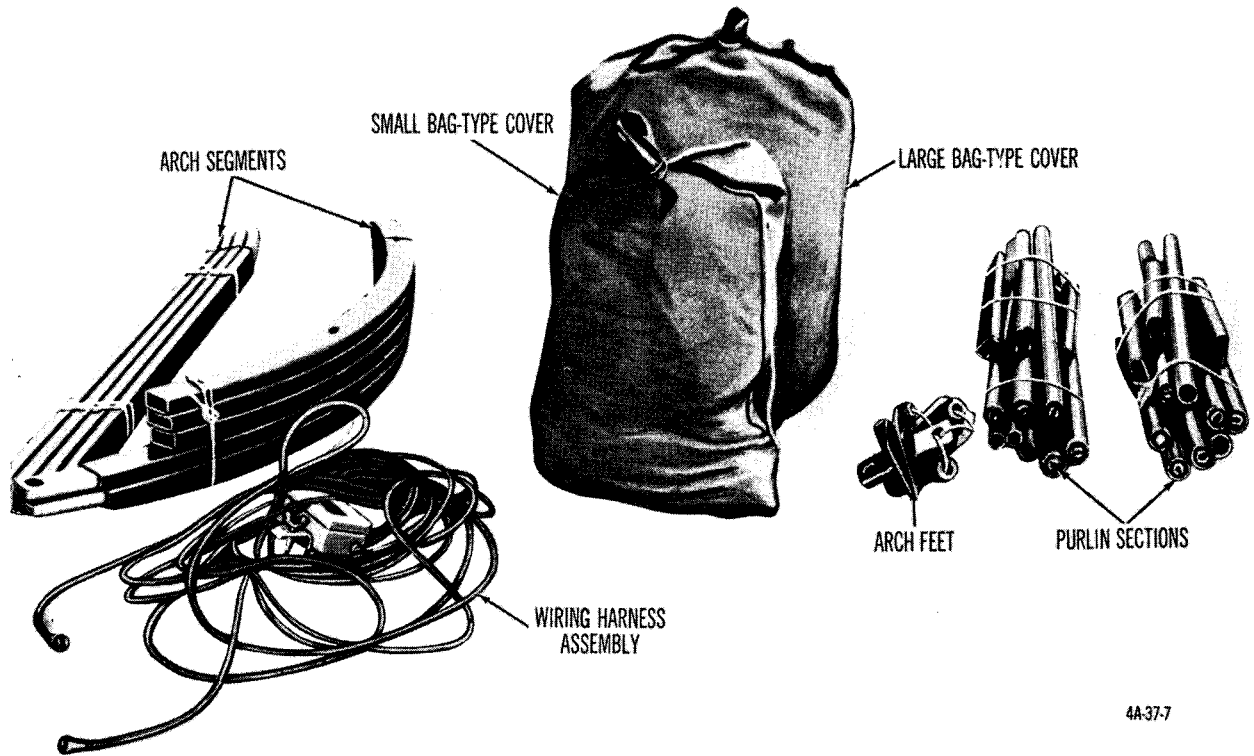

Figure 101. Folding and packing tent, aviation maintenance, small.
- (6) *Disassembling tent frames.*
- f. *Folding and Packing* (fig. 101).
- (1) Fold tent roof and end assembly into a small bundle. Do not fold window assemblies. Place folded tent roof and end assembly in large bag-type cover. Secure cover with drawstrings.
- (2) Fold tent end closures into small bundles and place them in a small bag-type cover.
- (3) Fold tent liner into a small bundle and place it in small bag-type cover. Secure cover with drawstrings.
- (4) Stack arch segments and tie stacks with provided lashing lines.
- (5) Bundle purlin sections and tie bundles with provided lashing lines.
- (6) Tie arch feet together with provided lashing lines.
- (7) Bundle tent pins, ground cable assemblies, and guy assemblies together and tie with provided lashing lines.
- (8) Bundle wiring harness assembly and tie bundle with wiring harness assembly cord.